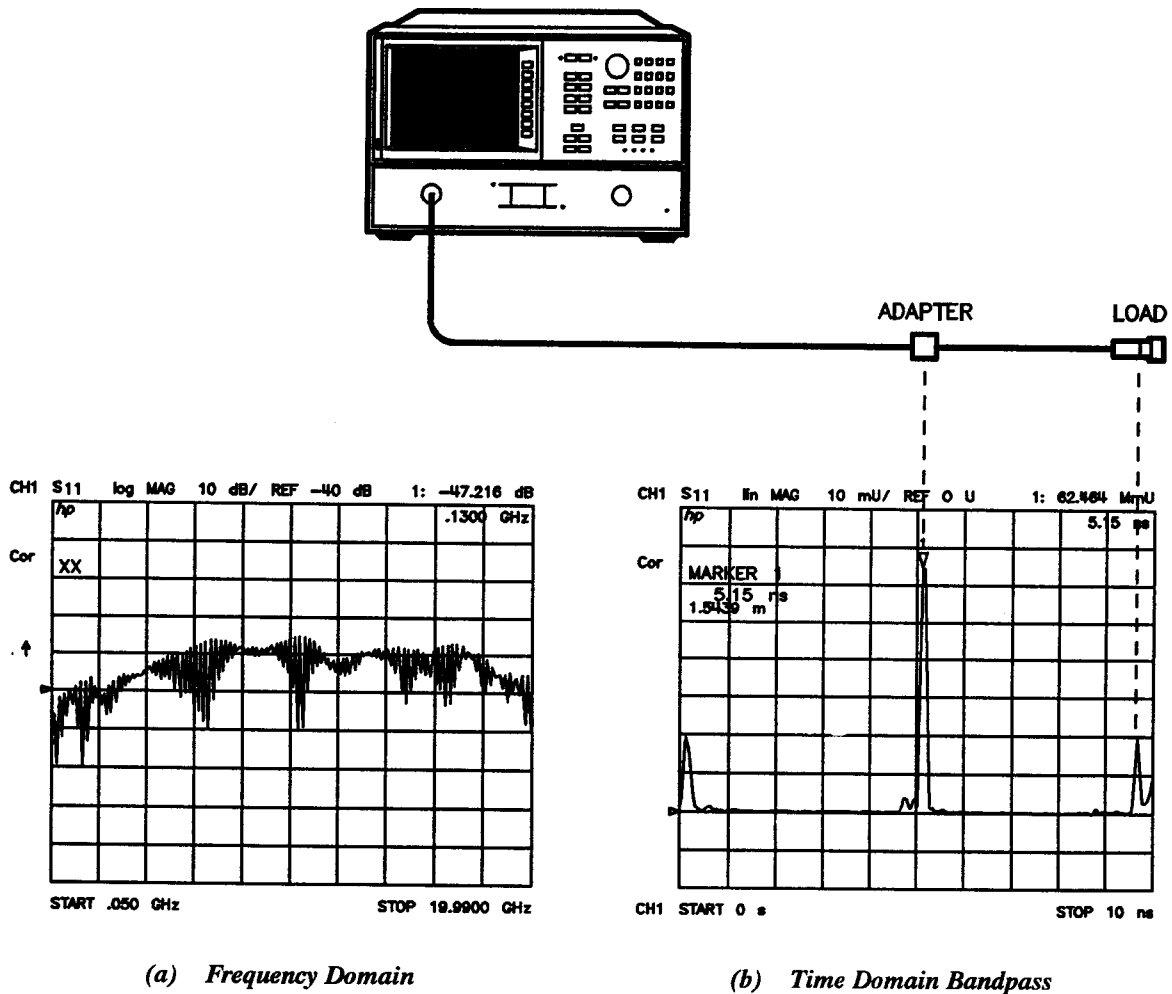

Figure 9-3. A Reflection Measurement of Two Cables
3. Connect one or more lengths of cable, with adapters between cable sections, as shown at the top of Figure 9-3.
9. Figure 9-3 shows typical frequency and time domain responses of a reflection measurement of two sections of cable.
**Interpreting the Bandpass Reflection Response Horizontal Axis.** In bandpass reflection measurements, the horizontal axis represents the time it takes for an impulse launched at the test port to reach a discontinuity and return to the test port (the two-way travel time). In Figure 9-3, each connector is a discontinuity.